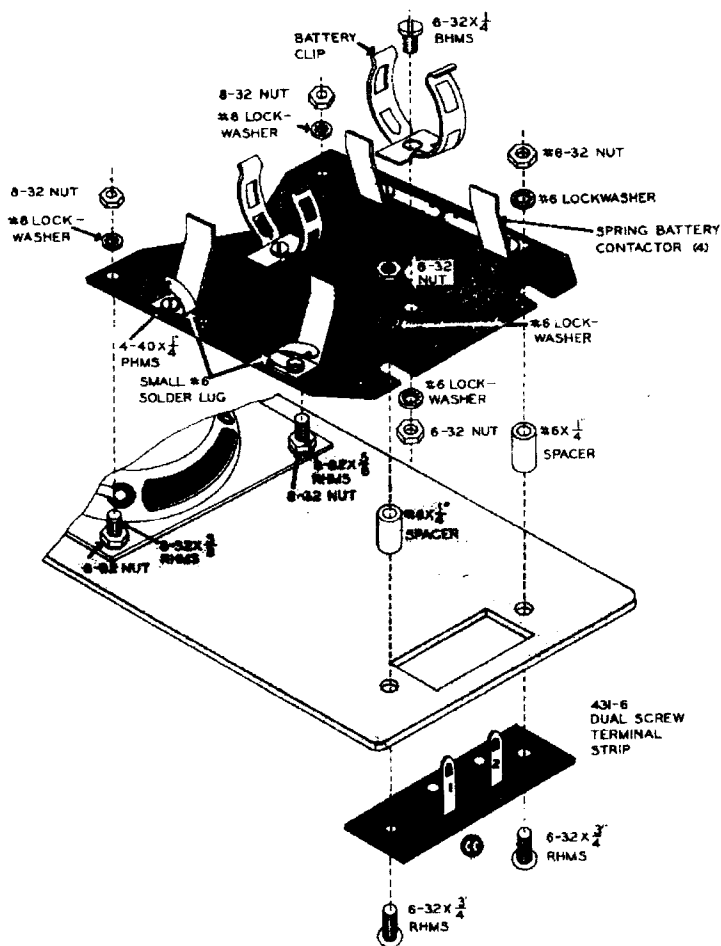

Figure 7
- () Break off the two points on each battery holder clip as shown in Figure 7.
- () Mount the two clips in their positions on the phenolic board as shown in Figure 7. Use a 6-32 x 1/4" BHMS through the clip, through the phenolic board, a #6 lockwasher and secure with a 6-32 nut.
- () Insert the two 6-32 x 3/4" RHMS through the dual screw terminal strip (terminal lugs face outward), then through the panel and the 1/4" spacers. While holding these screws in position, place the phenolic board assembly over the four exposed screw ends. Refer to Figure 7. Place a #6 lockwasher over each 6-32 screw and secure with 6-32 nuts. On the two 8-32 screws on the speaker, use #8 lockwashers and secure with 8-32 nuts.